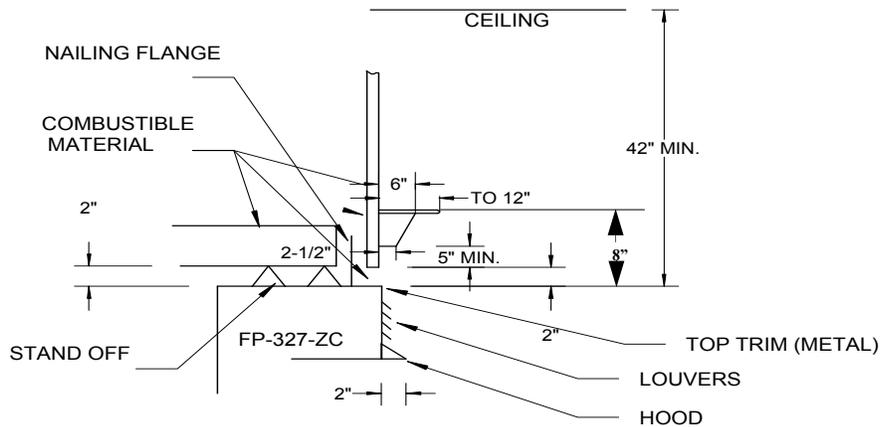

Figure 5
3. **Mantel Clearances:** We have provided 3 different situations to position your mantel. See Figure 5.